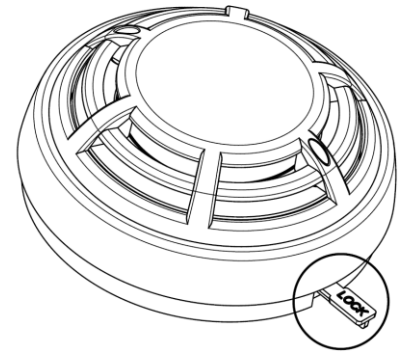

Fig.4
- If the detector is locked to the base, to unlock it , insert first the key to the specified location (Fig. 4) and rotate the detector counterclockwise;